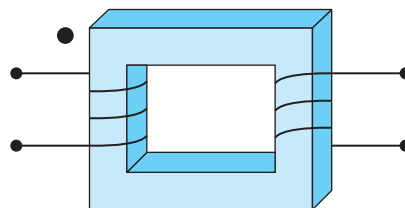

FIGURE P12.30 Magnetic circuit with a dot.
12.30 (A) If a dot is placed on the primary coil as shown in Figure P12.30, where on the secondary coil should the corresponding dot be placed?